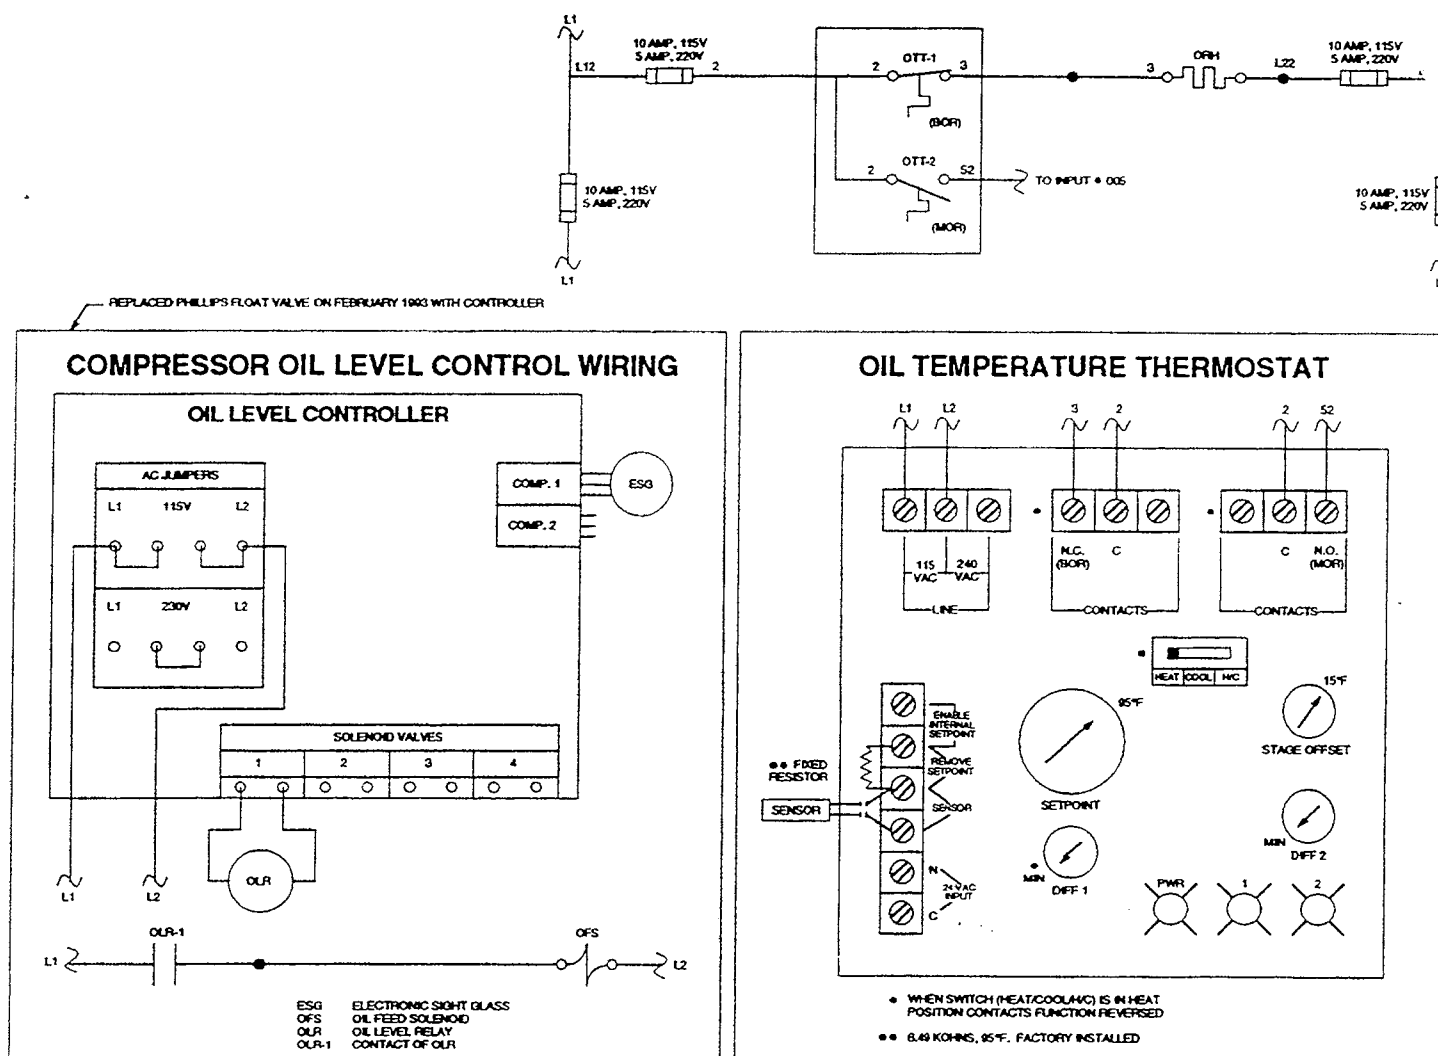

Figure 1 Current/Past Design HP/IGC
2. The oil feed solenoid (OFS) that controls the return of oil to the compressor crankcase opens on a signal from the electronic oil level controller (See note below. Item #2 does not apply to these units). In the current arrangement, oil can be drained to the compressor crankcase even if the oil temperature is below the required minimum temperature. If the crankcase level is low and the OLR-1 contacts close, the OFS will open since it is connected to L1. A refrigerant rich mixture could be metered into the compressor crankcase as a result of insufficient recovery time or failure of the oil pot heater to boil off the refrigerant. Refer to Figure 1 for typical wiring of the current HP and IGC controls.
3. Power to the electronic oil return controls feeding oil to the compressor crankcase is on at all times. Liquid (oil or refrigerant) from the oil pot can drain to the compressor crankcase even if the compressor is off. If all other controls are functioning properly, only oil would drain to the idle compressor based on demand from the electronic level control. However, if the heater fails or other conditions exist that permit refrigerant to migrate to the oil pot, refrigerant could drain to the compressor crankcase instead of oil. Refer to Figure 1 for typical wiring of the current HP and IGC controls.
1. Identify the type of oil control wiring installed in your equipment. Compare the typical wiring schematics shown in Figure 1 to determine if your unit is wired as shown.